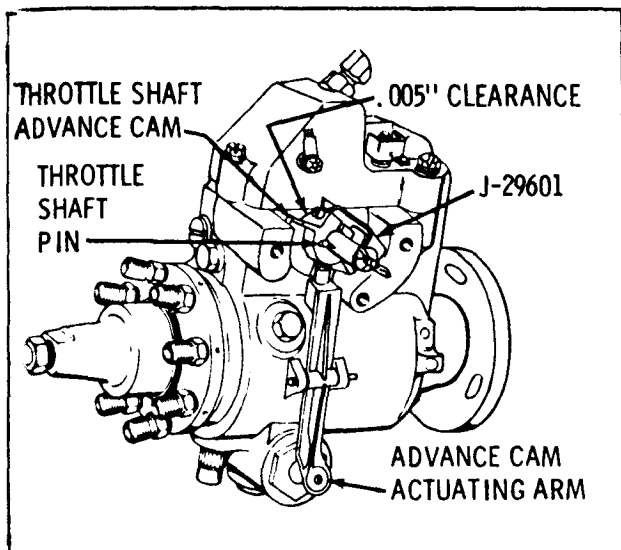

Figure 6C5-28 Injection Pump Tool J-29601 Installed
8. Clean the injection pump cover, upper portion of the pump, the throttle shaft and the guide stud area. (Figure 6C5-26) Place several rags in the engine valley to catch fuel.